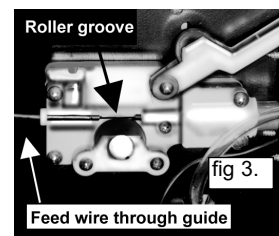

fig 3.
3. 3. 4. Straighten about 40-50mm of spool wire (*do not allow wire to uncoil*), and gently push wire through the plastic guide and through the 6 or 8mm roller groove (see 6.3), and through to the torch (fig. 3).